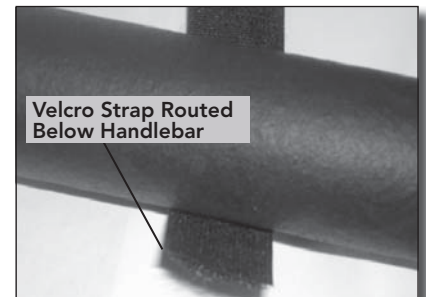

Fig 2 Velcro Strap Routing
- Align the strap with the bend in the handlebar. Route the strap underneath the handlebar. Correct routing of the velcro strap is shown in figure 2.
- Align the strap so the Handlebar Console is pulled tight fore and aft. Route the strap underneath the handlebar. Correct routing of the strap is shown in figure 2.